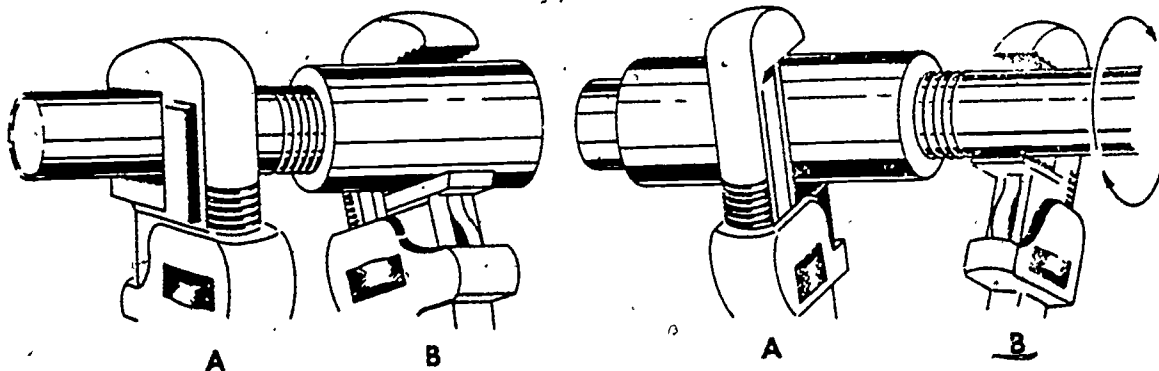

Figure 3-16. Using two wrenches.
Two pipe wrenches should always be used when wrought iron or steel fittings are being installed. This will allow for more pressure to be applied to tighten the joint. It is important that the pipe or fitting to which a new pipe or fitting is being installed does not turn. Figure 3-16 shows the correct way to apply wrenches. In figure 3-16, the pipe wrench (A) shows that it is used for holding the pipe to keep it from turning while the fitting is being tightened. Figure 3-16 shows another pipe being connected to the coupling. Therefore, the coupling must be held to assure that the next pipe is connected securely. Two or more fittings should never be connected at the same time.